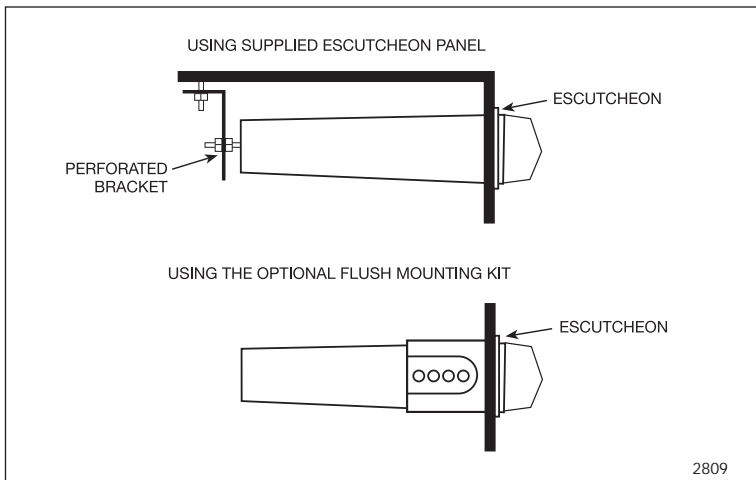

Figure 2. Flush Mounting
2. Examine behind the bulkhead to determine the best method of support for the radio. Examples of internal support methods are shown in Figure 2.